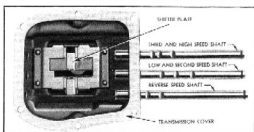

Fig. 22—Shifter Shaft Assembly
1. In reassembling the transmission cover, care must be used in installing the shifter shafts. They should be installed in the order shown in Fig. 22, namely reverse speed, low speed and high speed.